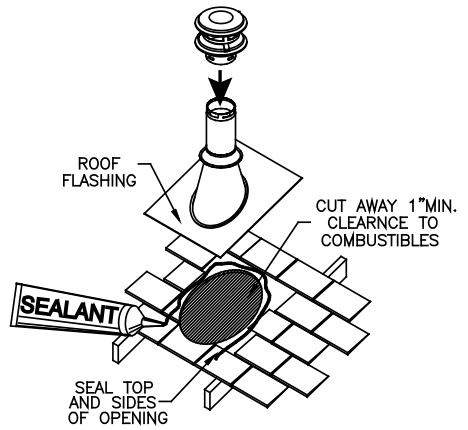
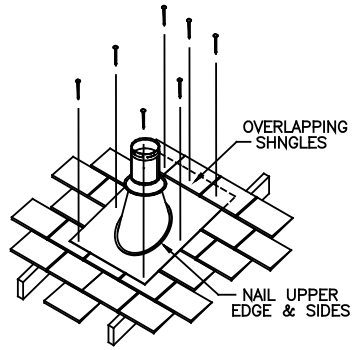

Figure 7
Figure 8
H. After lining up for the hole in roof, using the same method as 2. (B), cut either a round or square hole in the roof (**Figure 7**). Always cut the hole with the proper clearance to the vent pipe. Install the upper edge and sides of Flashing under the roofing materials and nail to the roof along the upper edge (**Figure 8**). Do not nail across the lower edge. Seal all nail heads with non-hardening waterproof sealant.